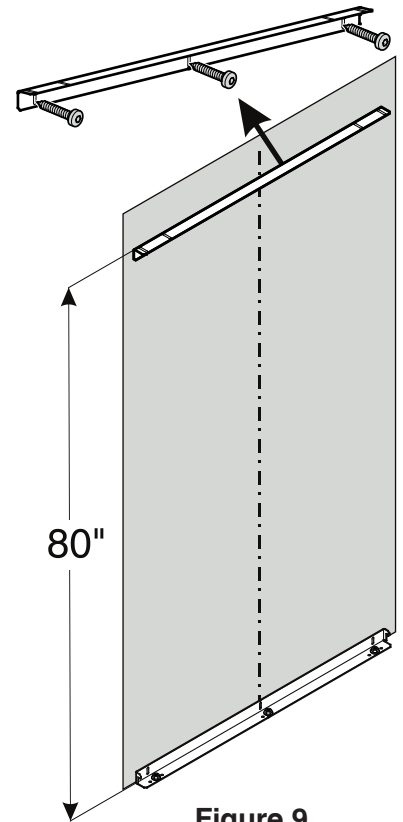

Figure 9
1. Mount the anti-tipping bracket provided on the wall using 6 x 60 screws (Figure 9).